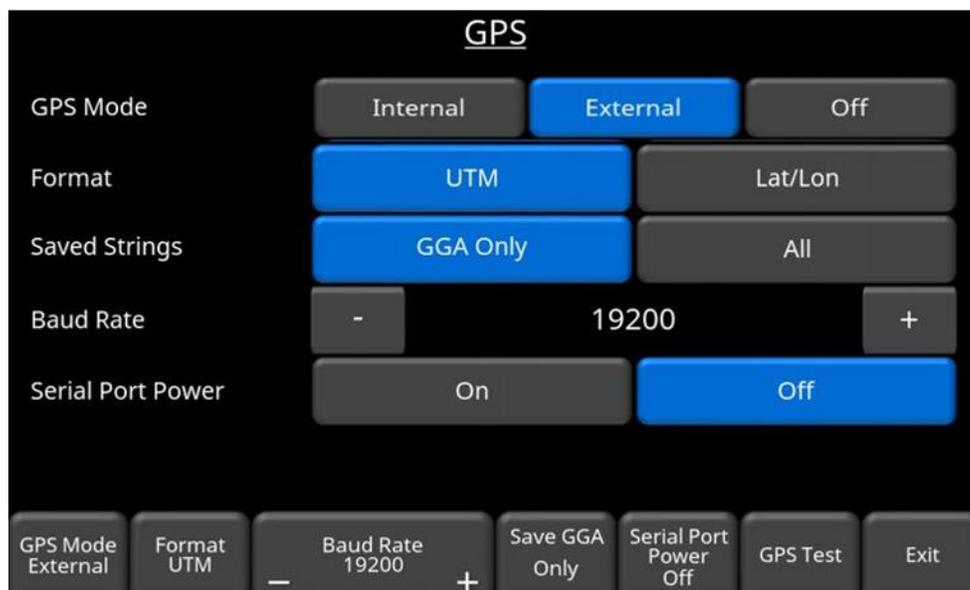

Figure 5-40: Configuring options for external GPS
- **GPS Mode** – pressing this cycles between using the Internal GPS, the (optional) External GPS or turning the GPS off. If the External GPS is selected, the screen displays additional options (Figure 5-40). If the serial port power is On for the External GPS and you change the GPS mode to Internal or Off, the serial port power will be turned off as a safety measure.